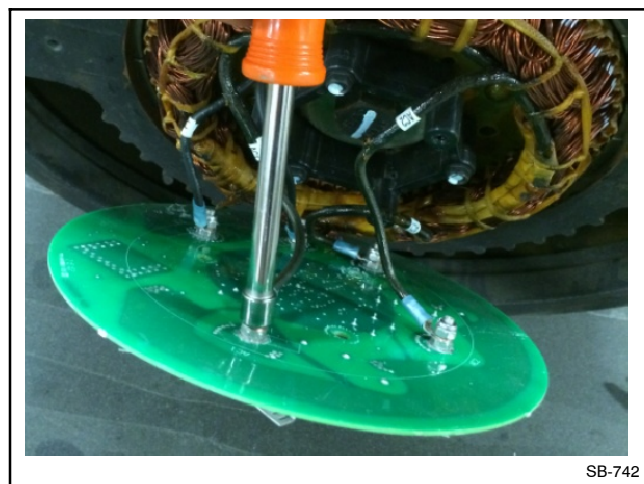

Figure 7 Removing Leads from the FRX Activator Board
- 3.5 Access the back of the FRX activator board and remove the exciter armature leads (AC1, AC2, and AC3) by removing the three elastic stop nuts. Note the lead terminals and their positioning on the FRX activator board silkscreen boxes for assembly. See Figure 7.